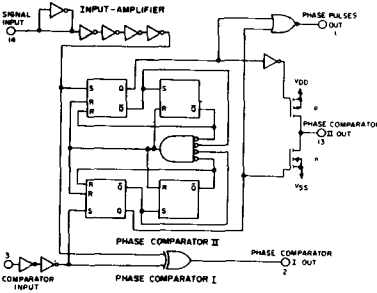
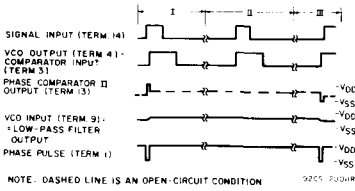
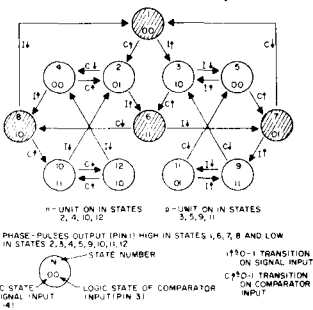

Fig. 3—Schematic of COS/MOS PLL phase-comparator section.
Fig. 6—Typical waveforms for COS/MOS phase-locked loop employing phase-comparator II in locked condition.
Fig. 7—State diagram of phase-comparator II.
Most PLL systems utilize a balanced mixer composed of well-controlled analog amplifiers for the phase-comparator section. Analog amplifiers with well-controlled gain characteristics cannot easily be realized using COS/MOS technology. Hence, the COS/MOS design shown in Fig. 3 employs digital-type phase comparators. Both phase comparators are driven by a common-input amplifier configuration composed of a bias stage and four inverting-amplifier stages. The phase-comparator signal input (terminal 14) can be direct-coupled provided the signal swing is within COS/MOS logic levels [logic 0 \leq 30% (VDD-VSS), logic 1 \geq 70% (VDD-VSS)]. For smaller input signal swings, the signal must be capacitively coupled to the self-biasing amplifier at the signal input to insure an over-driven digital signal into the phase comparators.
Phase-comparator II is an edge-controlled digital memory network. It consists of four flip-flop stages, control gating, and a three-state output circuit comprising p and n drivers having a common output node as shown in Fig. 3. When the p-MOS or n-MOS drivers are ON, they pull the output up to V_{DD} or down to V_{SS} , respectively. This type of phase comparator acts only on the positive edges of the signal- and comparator-input signals. The duty cycles of the signal and comparator inputs are not important since positive transitions control the PLL system utilizing this type of comparator. If the signal-input frequency is higher than the comparator-input frequency, the p-MOS output driver is maintained ON continuously. If the signal-input frequency is lower than the comparator-input frequency, the n-MOS output driver is maintained ON continuously. If the signal- and comparator-input frequencies are the same, but the signal input lags the comparator input in phase, the n-MOS output driver is maintained ON for a time corresponding to the phase difference. If the signal- and comparator-input frequencies are the same, but the signal input leads the comparator input in phase, the p-MOS output driver is maintained ON for time corresponding to the phase difference. Subsequently, the capacitor voltage of the low-pass filter connected to this type of phase comparator is adjusted until the signal and comparator input are equal in both phase and frequency. At this stable operating point, both p- and n-MOS output drivers remain OFF, and thus the phase-comparator output becomes an open circuit and holds the voltage on the capacitor of the low-pass filter constant. Moreover, the signal at the "phase pulses" output is at a high level, and can be used for indicating a locked condition. Thus, for phase-comparator II, no phase difference exists between signal and comparator input over the full VCO frequency range. Moreover, the power dissipation due to the low-pass filter is reduced when this type of phase comparator is used because both the p- and n-MOS output drivers are OFF for most of the signal-input cycle. It should be noted that the PLL lock range for this type of phase comparator is equal to the capture range, independent of the low-pass filter. With no signal present at the signal input, the VCO is adjusted to its lowest frequency for phase-comparator II. Fig. 6 shows typical waveforms for a COS/MOS PLL employing phase-comparator II in a locked condition.
Fig. 7 shows the state diagram for phase-comparator II; each circle represents a state of the comparator. The number at the top inside each circle represents the state of the comparator, while the logic state of the signal and comparator inputs, represented by a 0 or a 1, are given by the left and right numbers, respectively, at the bottom of each circle. The transitions from one state to another result from either a logic change on the signal input (I) or the comparator input (C). A positive transition and a negative transition are shown by an arrow pointing up or down, respectively. The state diagram assumes that only one transition on either the signal input or the comparator input occurs at any instant. States 3, 5, 9, and 11 represent the condition at the output of phase-comparator II when the p-MOS driver is ON, while states 2, 4, 10, and 12 determine the condition when the n-MOS driver is ON. States 1, 6, 7, and 8 represent the condition when the output of phase-comparator II is in its high impedance state; i.e., both p- and n-devices are OFF, and the phase-pulses output (terminal 1) is high. The condition at the phase-pulses output for all other states is low.
As an example of how one may use the state diagram shown in Fig. 7, consider the operation of phase-comparator II in the locked condition shown in Fig. 6. The waveforms shown in Fig. 6 are broken up into three sections: section I corresponds to the condition in which the signal input leads the comparator input in phase, while section II corresponds to a finite phase difference. Section III depicts the condition when the comparator input leads the signal input in phase. These three sections all correspond to a locked condition for the COS/MOS PLL; i.e., both signal- and comparator-input signals are of the same frequency but differ slightly in phase. Assume that both the signal inputs begin in the 0 state, and that phase-comparator II is initially in its high-impedance output condition (state 1), as shown in Figs. 7 and 6, respectively. The signal input makes a positive transition